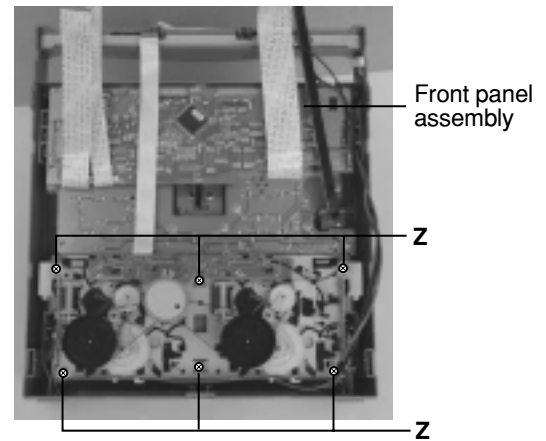

Fig.19
### ■ Replacing the CD turn table and removing the motor (See Fig. 19 )
### ■ Removing the cassette deck mechanism (See Fig.19)
## ■ Removing the cassette deck main motor, and replacing the main belts (See Fig.19, 24 and 25)
1. Remove six screws **Z** retaining the cassette deck mechanism. (Fig.19)
## ■ Removing the leaf switches of the cassette deck mechanism (See Fig. 19 and 26)
1. Remove the six screws **Z** that retain the cassette deck mechanism. (Fig.19)
(See Fig. 19 and 27)
1. Remove six screws **Z** that retain the cassette deck mechanism. (Fig.19)